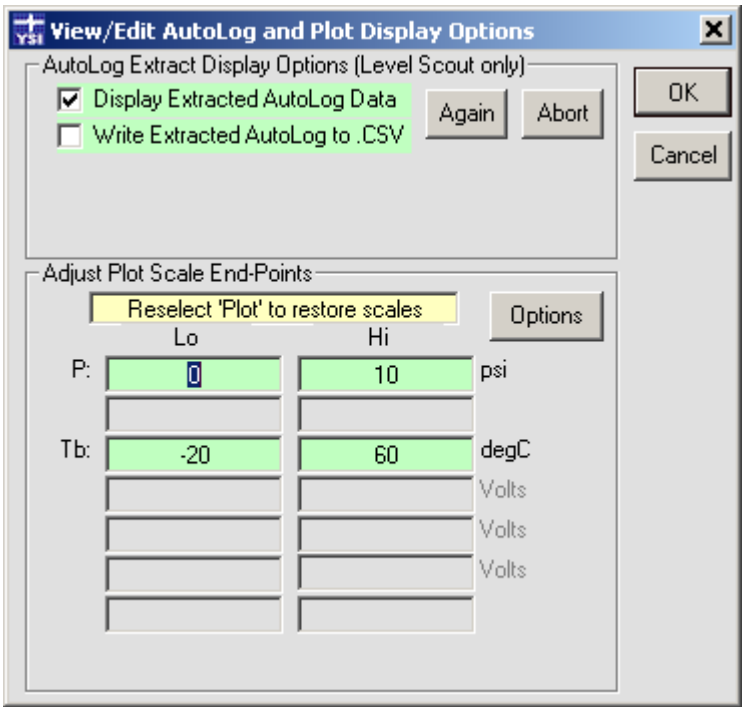

Figure 4.14
Clicking the **Scales** button on this window reveals other advanced options for overriding plot scale end-points normally chosen automatically (figure 4.14). Clicking the **Options** button (on right) will restore the original second frame of main options. Once any Scale End-Points have been edited they will persist until the **Plot** format is reselected for the display which restores the original “automatic” scale end-points. When a single transducer is the Trend scope, its automatically determined scale end-points are appropriate to the range of that transducer. However, when “All” transducers are plotted together, the scale end-points are “amalgamated” (i.e., they range from the lowest end-point of the lowest transducer range, to the highest end-point of the highest transducer range), and for Pressure (P) and Temperature (T) measurement they may vary in units as well.